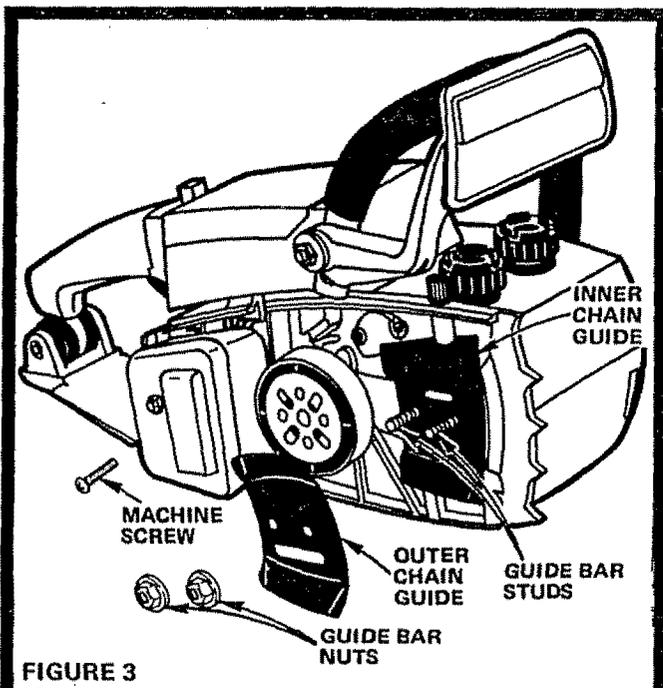

FIGURE 3
1. Using the Guide Bar Wrench, remove the two Guide Bar Nuts and Outer Chain Guide from Guide Bar Studs (Fig. 3).
3. Be sure upper and lower edges of Inner Chain Guide are bent TOWARD the Saw Frame (Fig. 3).